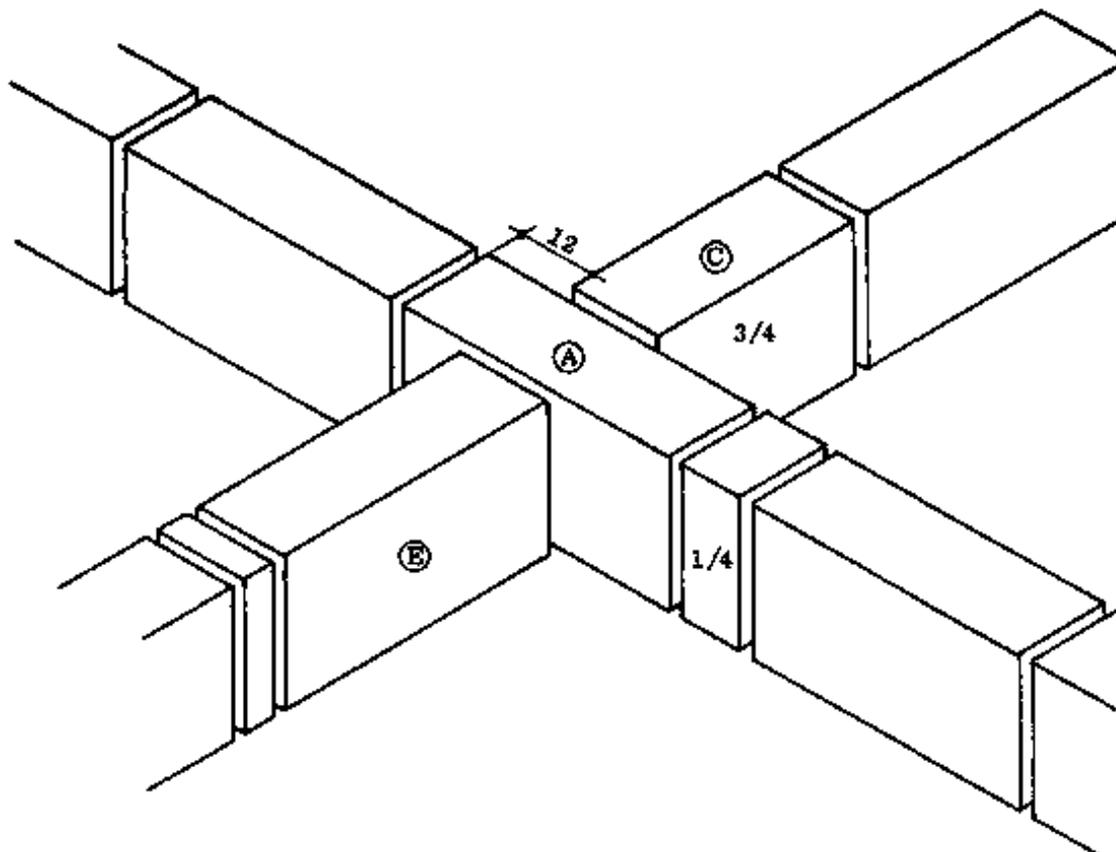

Fig. 1
- All through blocks (Figs. 1 & 2, blocks A & B) project from the crossed wall by 12 cm at one end (12 cm is  $1/4$  block plus the joint). These blocks are followed by  $1/4$  blocks at the other end (Figs. 1 & 2).
- All crossed walls contain a 3/4 block (Figs. 1 & 2, blocks C & D) set directly against the through-going block. This 3/4 block is on the opposite side from the 1/4 blocks in the course below (Fig. 1). The crossed wall continues with a full block (Figs. 1 & 2, blocks E & F) and a 5 cm block, on the other side from the 3/4 block.